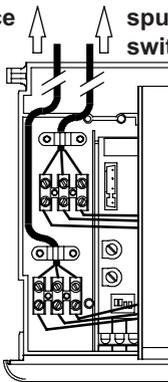

Fig. 6.19
- Route the electrical supply flexible cord and the external control flexible cord as illustrated in Fig. 6.19. Lock the flexible cords in place with the flexible cord clamps.